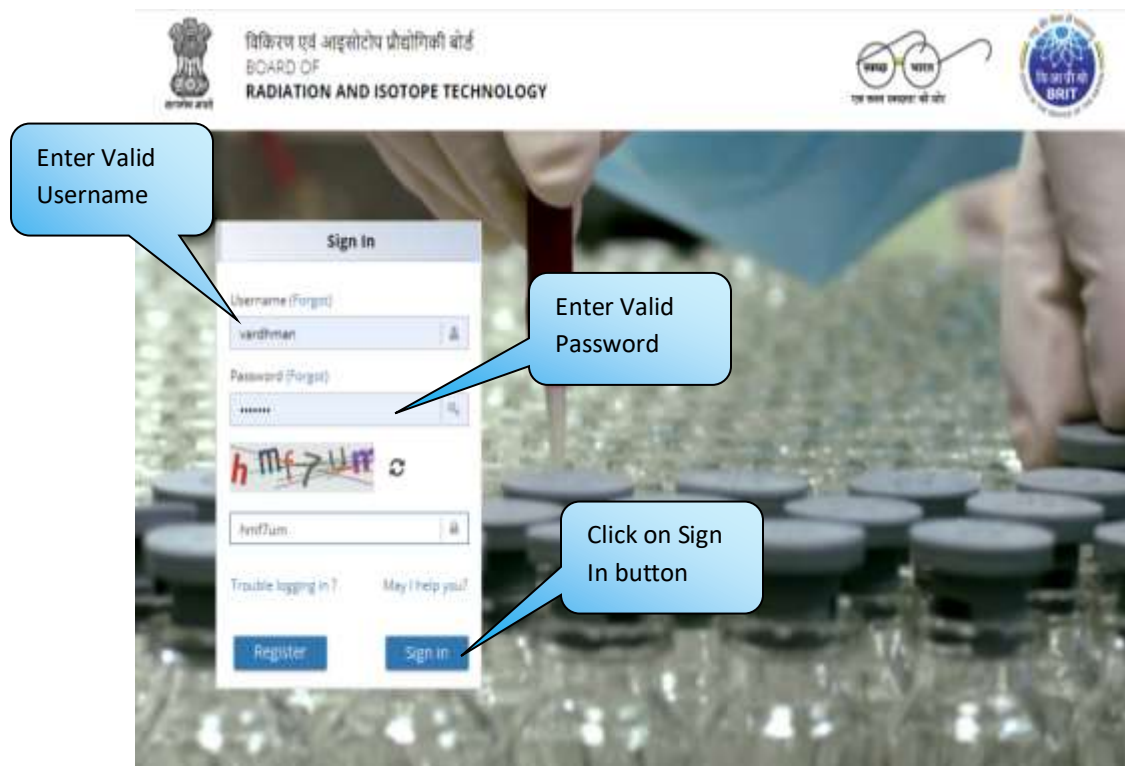

Fig. 1
Step 3: Click on Sign in Button. (Refer Fig.1)